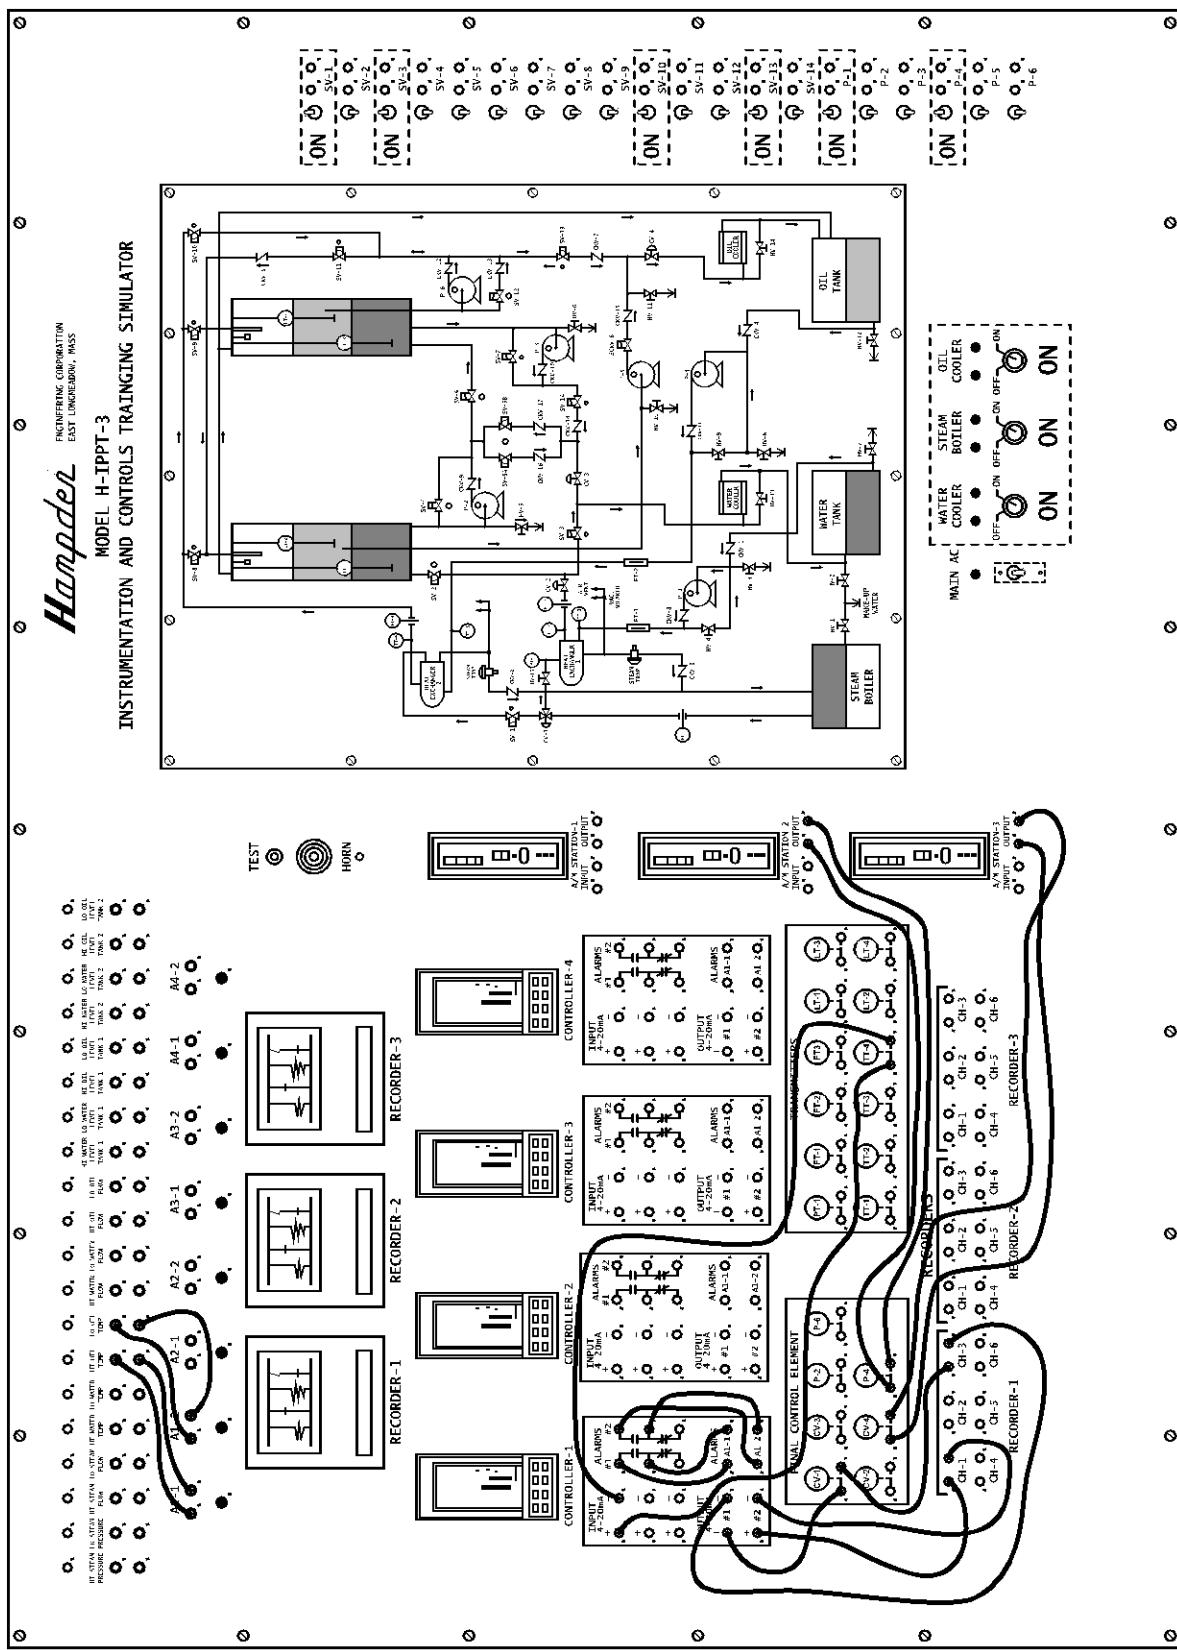

Figure 8
5. Interconnect the process control equipment per Figure 8.